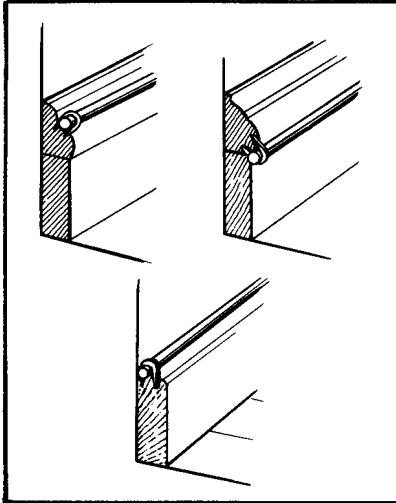

FIGURE 5. Wiring to Baseboards
a. Run wires along baseboards, on top of moldings, or on door or window casings, so that they will be as inconspicuous as possible. See Figures 5 and 6.